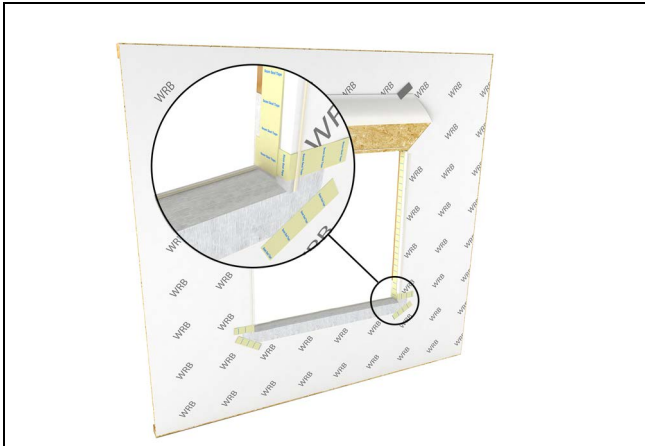

Figure 7
7. Apply seam seal tape over the corners. See Figure 7.